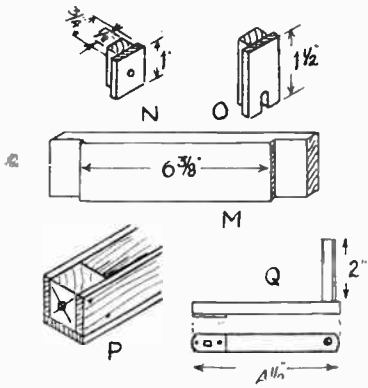

Fig. 3
The handle (Q) in Fig. 3, is a length of $\frac{3}{4}$ in. by $\frac{1}{2}$ in. wood, cut to the measurement given. In one end, that which goes over the roller spindle, cut a square hole. The end of the spindle should be filed roughly square to tightly fit this.